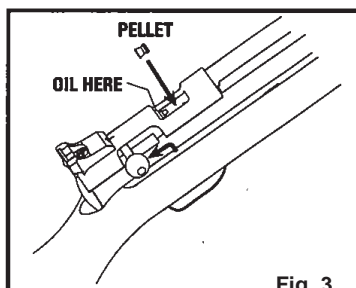

Fig. 3
- Open the bolt by pushing the bolt handle up and pulling it all the way back until you hear two clicks. (Fig. 3)
- With the bolt in the rearward position, place one pellet, nose first, into the loading port (breach) (Fig. 3). This is a single shot pellet airgun. Load no more than one pellet at a time.
- Open the bolt. (See Section 4.1 - Fig. 3)
- Your airgun will maintain proper function longer if you place one drop of oil on the bolt o-ring every 250 shots (Fig 3).